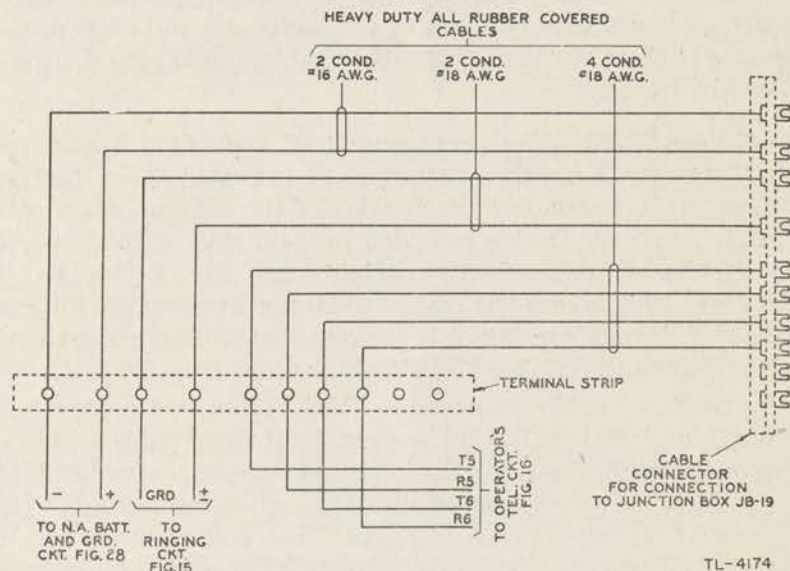

FIGURE 30.—Cable connector circuit, wiring diagram.
**24. Cable connector circuit (fig. 30).**—This circuit is utilized in extending leads from the battery and ground circuit, ringing circuit, and grouping key contacts, to junction box JB-19. In the event that a second switchboard BD-89-A is required, this circuit is used to extend the above mentioned leads from the terminal strip of the adjacent switchboard to junction box JB-19 mounted in this switchboard.
**31. Panel BD-98** (figs. 30 and 31).—This panel contains a voltmeter and an ammeter for controlling the rate of charge of the storage batteries and is equipped with a Telering 20-cycle power ringer (see par. 32) which supplies ringing current when 60-cycle